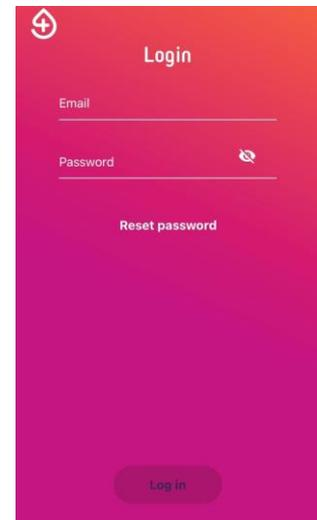

Figure 3 User sign in
Enter the user account in the “E-mail” field and the password in the “Password” field (see Figure 3) and tap the  button to login. Contact your internet provider or institutional help desk if you require additional help connecting to the internet.
- a) Tap on the **Reset password** button (see Figure 3).